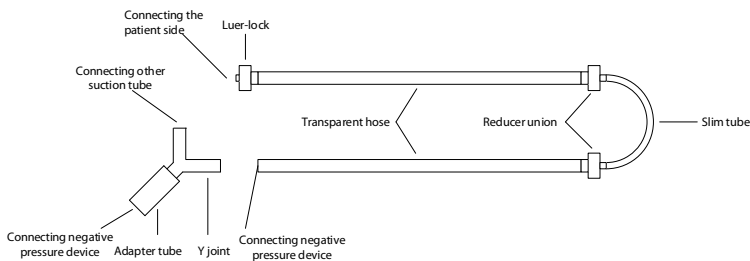

Figure 4-11 Installation of the suction pipe fitting
1. Connect the Luer-lock, transparent hose, adapter tube, and slim tube. As shown in Figure 4-11.
4. Install the transparent hose into the suction bottle of the suction device. To connect multiple suction tubes in a negative-pressure suction device, connect the transparent hose and adapter tube to the Y joint as shown in Figure 4-11. (The adapter tube should be connected to the straight end of the Y joint.) In this way, the adapter tube can be connected to the negative-pressure suction device, and the other end of the Y joint can be connected to other suction tubes. See Figure 4-11.